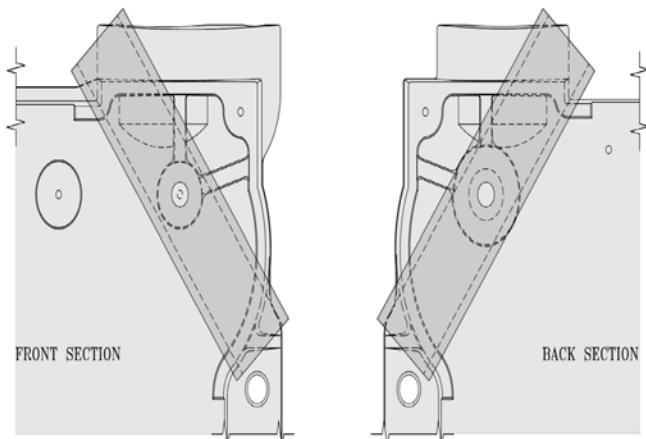

Figure 10: Front and Rear Section Channel Block Positions (Hydraulic Draw-Up)
- c. Insert the three (3) $\frac{3}{4}$ " draw-up rods (and couplings, if appropriate) through the tapped holes in the rear section extending them through the tapped holes in the front section. Be sure to screw draw-up rods into couplings far enough to prevent stripping threads.
- d. Place a 3" x 12" lg. steel channel on each end of the upper draw-up rod and a 3" x $8\frac{1}{2}$ " lg. steel channel on each end of the lower draw-up rods. Refer to Figures 10 and 11 for proper placement of channel block during assembly procedures. Install nuts and washers on one end of the draw-up rods and the hydraulic rams, washers and draw-up rod clamps on the other. These items are all located in the Draw-Up Kit.